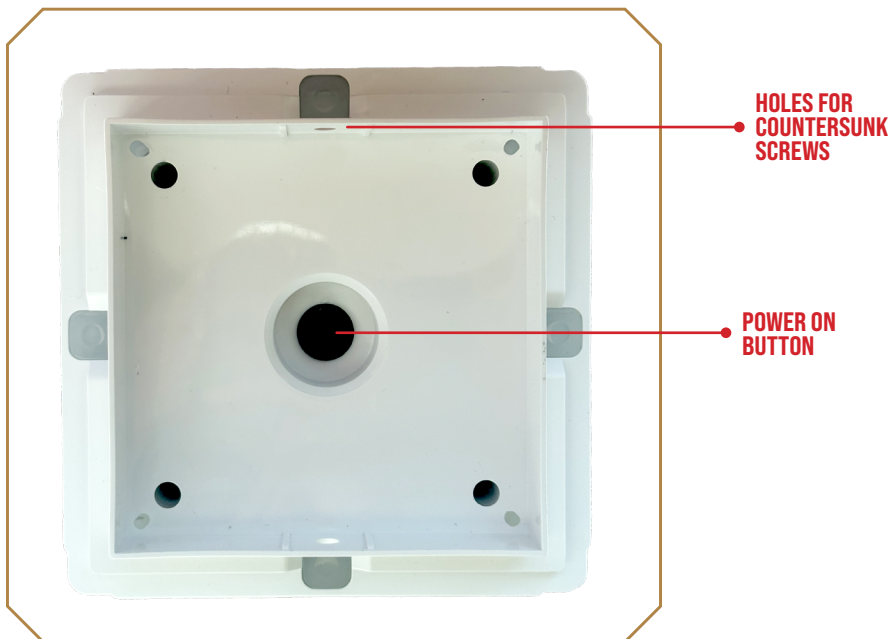
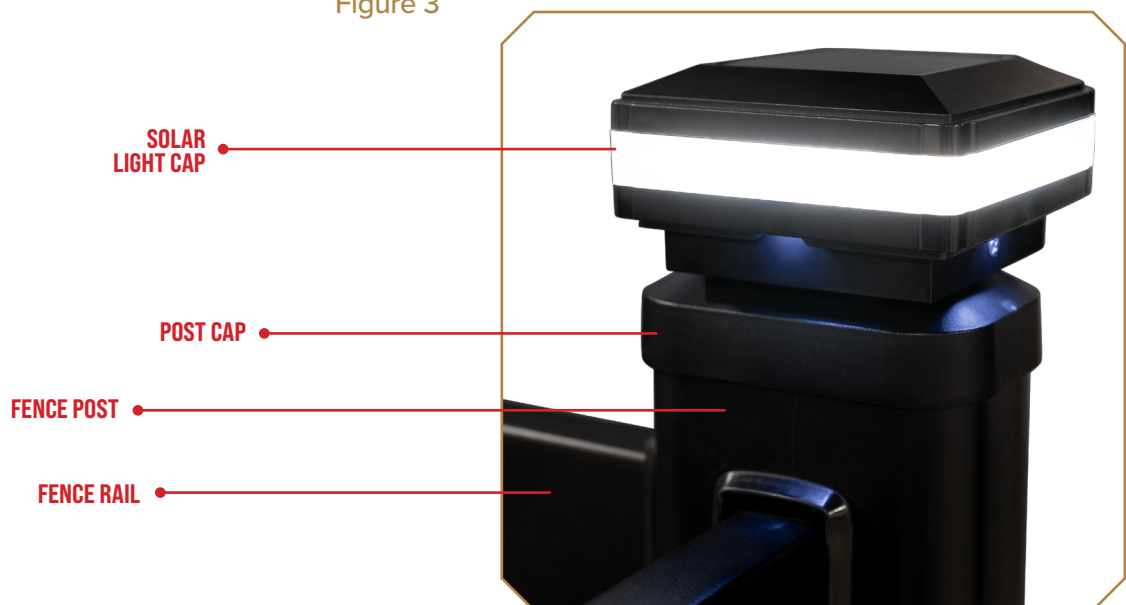

Figure 3
Figure 4
2. Remove the Solar Light Cap from the box. Press and hold the button found underneath the solar panels (Figure 3) until the lights come on. If the light does not turn on, leave the cap face up so the solar panels are exposed to the sun for at least an hour. After solar charging, press and hold, then release, then press and hold the button again to turn the light on. Lights will flash briefly to indicate the light is on. Lights will turn on automatically at night.
3. Align the two mounting holes on the bottom of the Solar Light Cap (Figure 3) to the holes on the mounting bracket. Place the two countersunk screws into those holes and tighten the screws with the No. 2 Phillips head screwdriver. Repeat these steps for every post getting a Solar Light Cap (Figure 4).